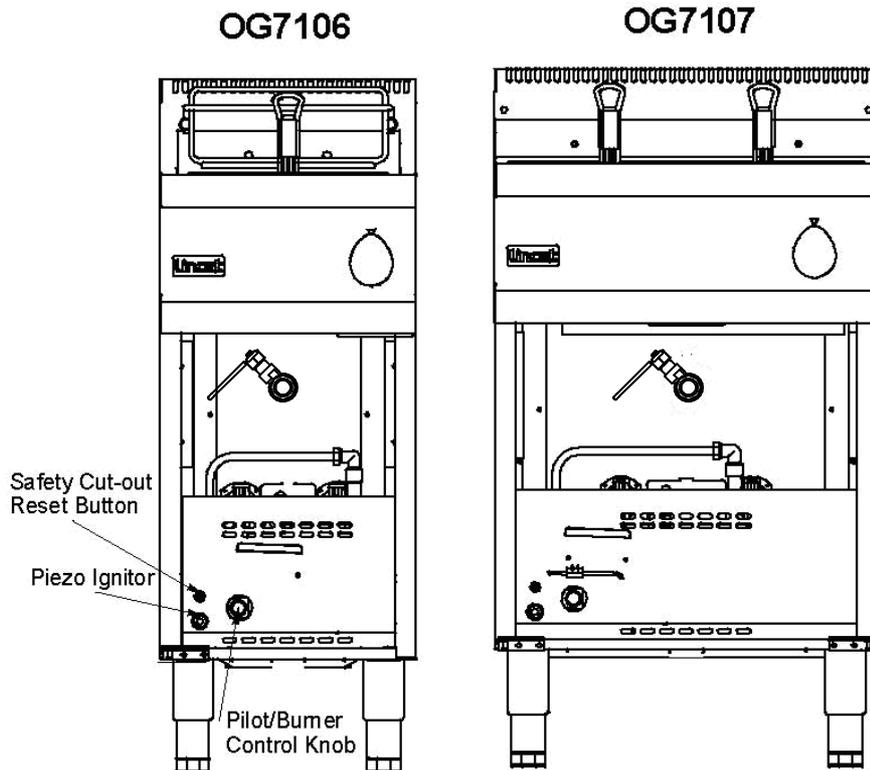

Fig 3
3. Keeping the pilot control knob depressed, press the piezo ignition button (see fig 3.)
Note: Should the safety cut out thermostat operate during normal use the unit will shut down. To re-light the unit allow the oil to cooled to a temperature below 200°C. Reset the safety thermostat by depressing the red reset button. (see fig 3). To reset the unit, open the door(s) - the reset button(s) are located at the base of the left hand frame pillar. The button is in the centre of the protruding threaded tube.